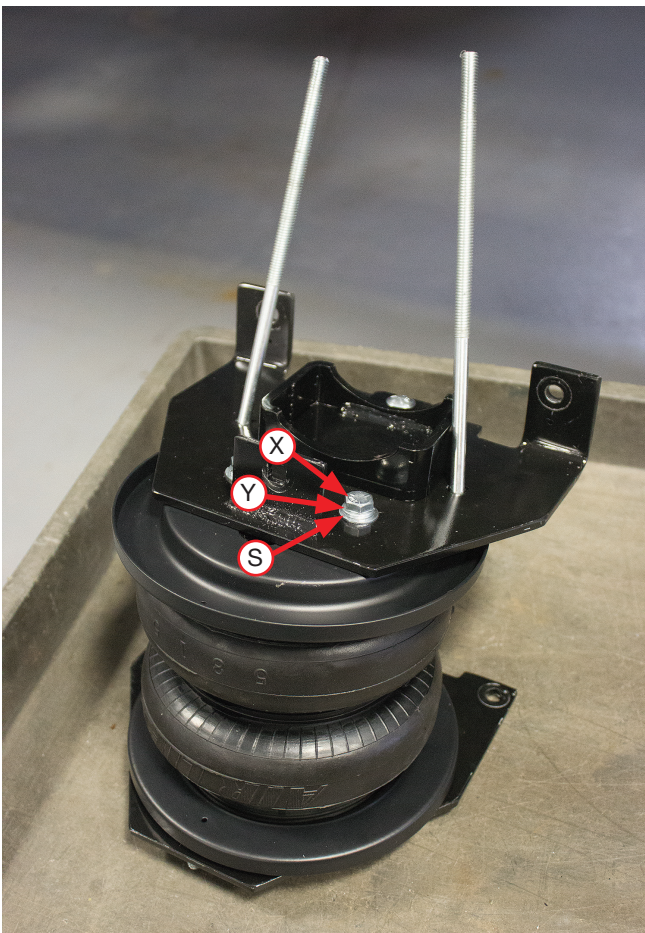
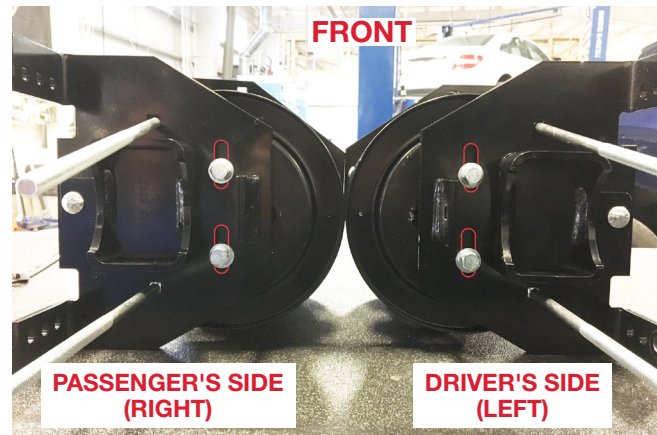

Fig. 13
Fig. 14
6. Set the lower bracket assemblies onto the air springs with a roll plate installed and attach with two 3/8"-24 x 7/8" hex bolts (X), 3/8" lock washers (Y) and 3/8" flat washers (S) (Fig. 13). Push the lower bracket as far forward as possible. Refer to Fig. 14. Torque the hardware to no more than 20 lb.-ft. (27Nm).